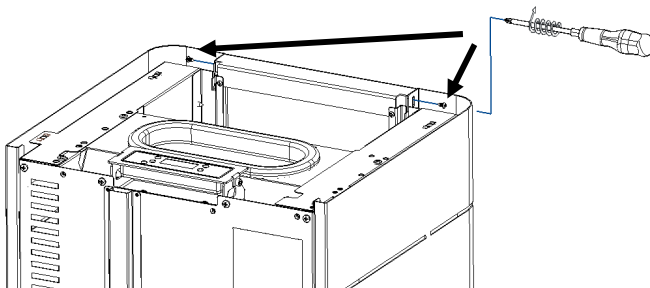

Figure 38 - Installing the side covers
d) Secure the side cases into the front cover, as illustrated in the Figure 38 (use 2 A screws)